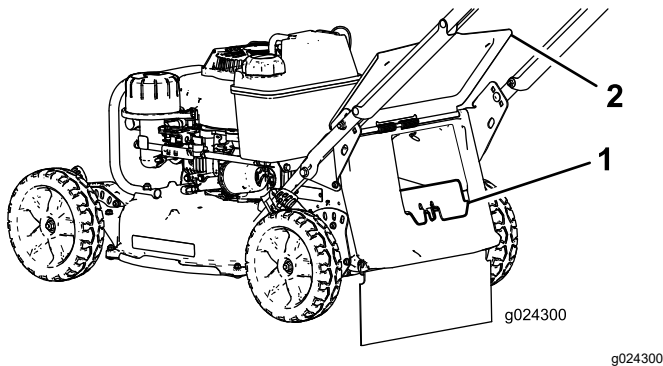

Figure 21
- If the rear-discharge plug is not installed, grip it by the handle, raise the rear door, and insert it into the rear-discharge chute until the latch locks into place (Figure 21).
3. Remove the rear-discharge plug by pushing in the latch with your thumb and pulling the plug out from the machine (Figure 21).